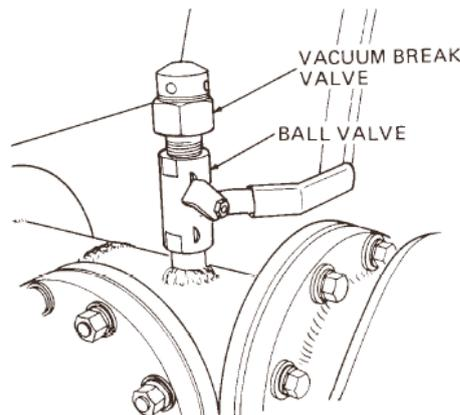

Figure 13 Vacuum Break Valve and Ball Valve
- Remove the vacuum break valve and ball valve from the fuel pump outlet pipe (Figure 13).